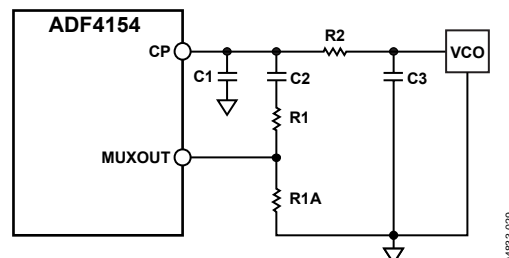
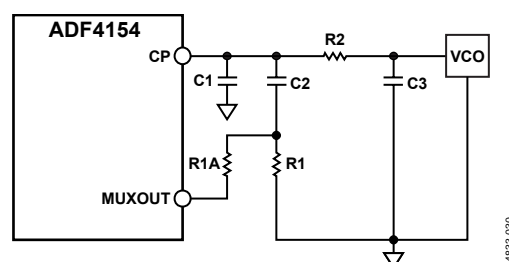

Figure 19. Fast-Lock Loop Filter Topology—Topology 1
Figure 20. Fast-Lock Loop Filter Topology—Topology 2
- Divide the damping resistor (R1) into two values (R1 and R1A) that have a ratio of 1:3 (see Figure 19).
- Connect an extra resistor (R1A) directly from MUXOUT, as shown in Figure 19. The extra resistor must be chosen such that the parallel combination of an extra resistor and the damping resistor (R1) is reduced to  $\frac{1}{4}$  of the original value of R1 (see Figure 20).